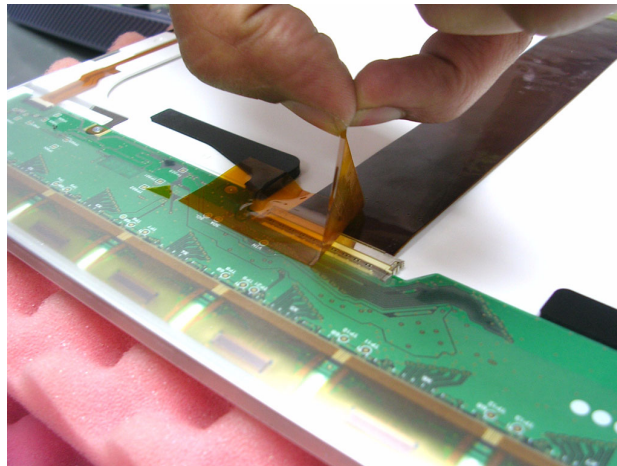

Figure 8-69 Removing Tape from LCD Rear Panel
- 1) Remove the kapton tape from the LCD rear panel and disconnect the flex cable - see Figure 8-69.